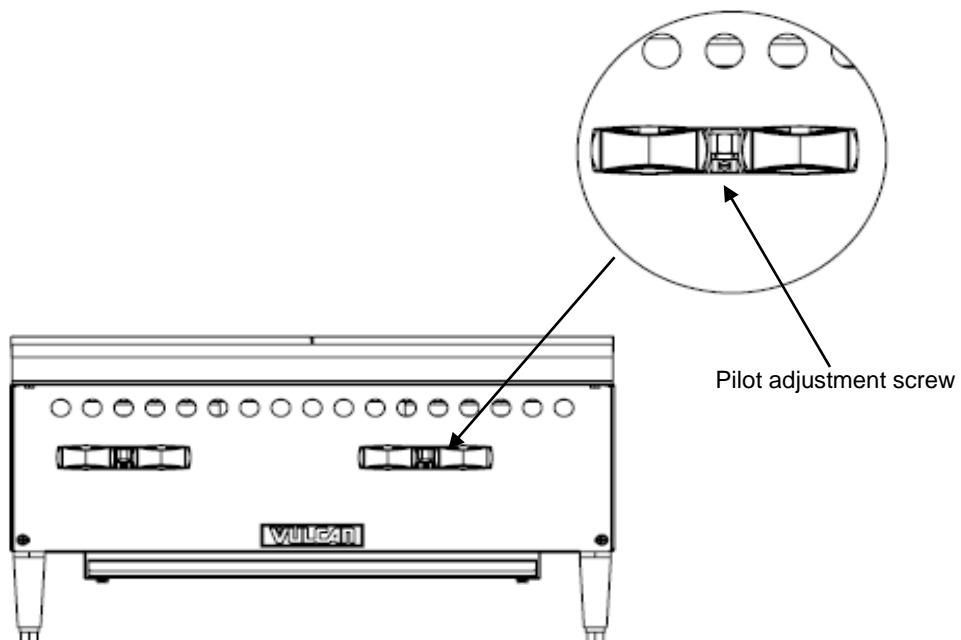

Fig. 6
3. Turn main gas shut-off valve ON. Light the pilot between each two main burners. Pilot can be accessed under the grate support beam running from left to right. Adjust the pilot valve screw(See Fig.6 on page 8) until the pilot flame has a slight yellow tip.
Using a flathead screwdriver, turn the slotted hex-head pilot adjustment screw clockwise to decrease the flame, and counterclockwise to increase the flame. See Fig. 6.